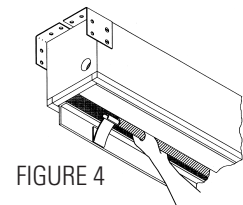

FIGURE 4
8. Lower picture surface approximately 4"-6" so that the slat will rest on top of the slat hooks. Gently lift slat up and ease it under the slat hooks (Fig. 4).